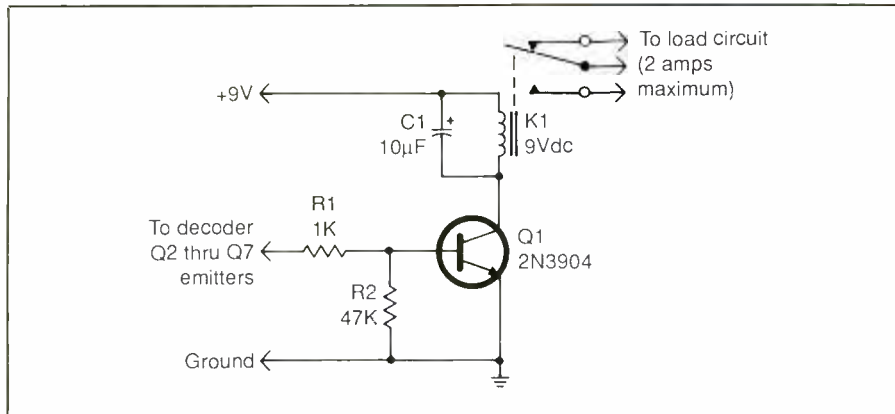
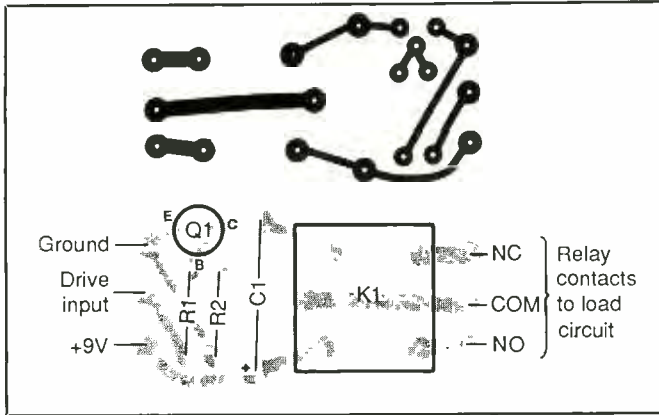

Fig. 1. Simplest type of control circuit contains an electromechanical relay that is driven by a transistor.
Fig. 2. Actual-size etching-and-drilling guide (upper) and wiring diagram (lower) for Fig. 1 circuit.
• **Simple Relay Circuit.** Figure 1 illustrates the simplest type of control circuit. It contains a common dc relay that is driven by a transistor. The single-pole, double-throw relay contacts can be used to switch power to any type of load circuit that does not exceed the 2-ampere contact rating of the relay. A readily available relay is specified in the Parts List, but you can substitute another relay that has
The circuit shown in Fig. 1 offers momentary operation because the relay will be energized only during the time the transmitter pushbutton for the channel to which the relay is assigned is held down. Releasing the transmitter button causes the relay contacts to spring back to the unenergized position.
transmitter pushbutton is pressed, the potential at the emitter of the driver transistor rises to about +5 volts. This is sufficient to forward-bias relay transistor *Q1* in the Fig. 1 circuit so that collector current flows and energizes relay *K1*.
Shown in Fig. 2 are the actual-size etching-and-drilling guide (A) and wiring diagram (B) for the printed-circuit board for the Fig. 1 relay driver circuit. You can fabricate this and any of the other pc boards presented in this article or you can purchase ready-to-wire boards from the source given in the Note at the end of the Parts List. Guide (A) is laid out for the relay specified for *K1* in the composite Parts List. Hence, if you use a different relay, you will have to modify the layout accordingly.
When wiring the pc board, note in Fig. 2(B) that you must make three connections to the receiver/decoder circuit—to +9 volts, circuit ground and any one of the emitters of driver transistors *Q2* through *Q7*. Be careful not to confuse +9 volts with V_{dd} , which is the regulated 6.8-volt bus. Also, make certain that the transistor is properly based and electrolytic capacitor *C1* is properly oriented before soldering any of its leads to the pads on the bottom of the board.